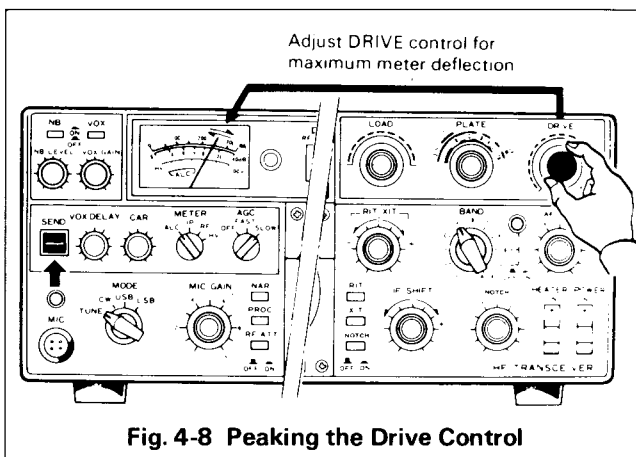

**Fig. 4-7 Adjusting Final Tube Bias**
4. Place the STAND-BY switch to SEND and adjust bias to 60 mA (TS-530SP) or 30 mA (TS-530D) with the BIAS control on the rear panel, Fig. 4-7.